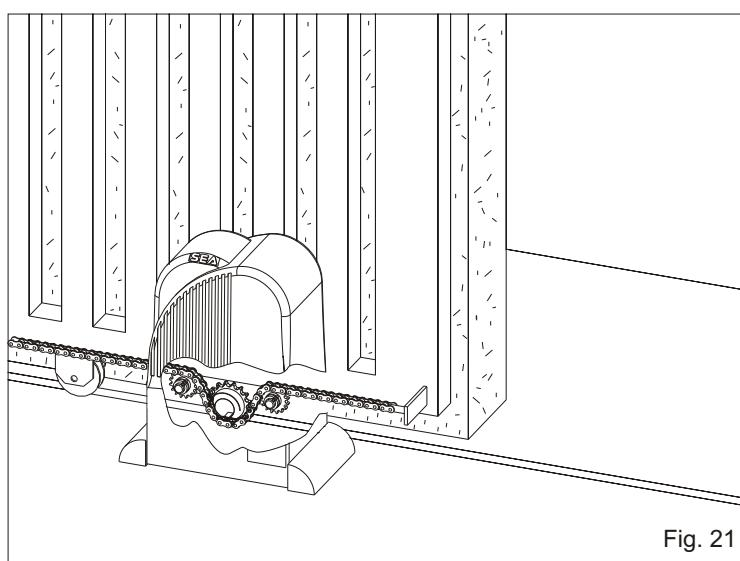
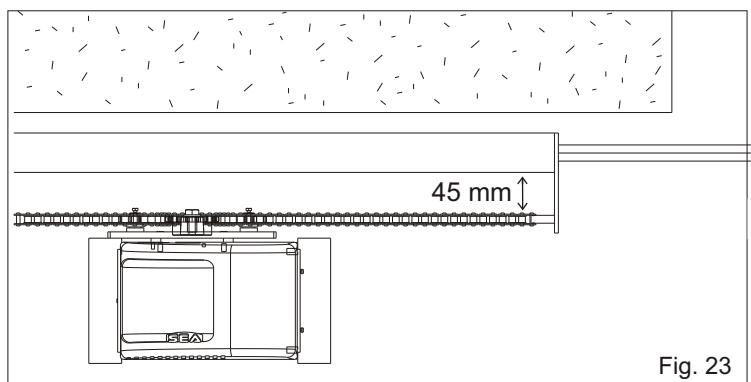
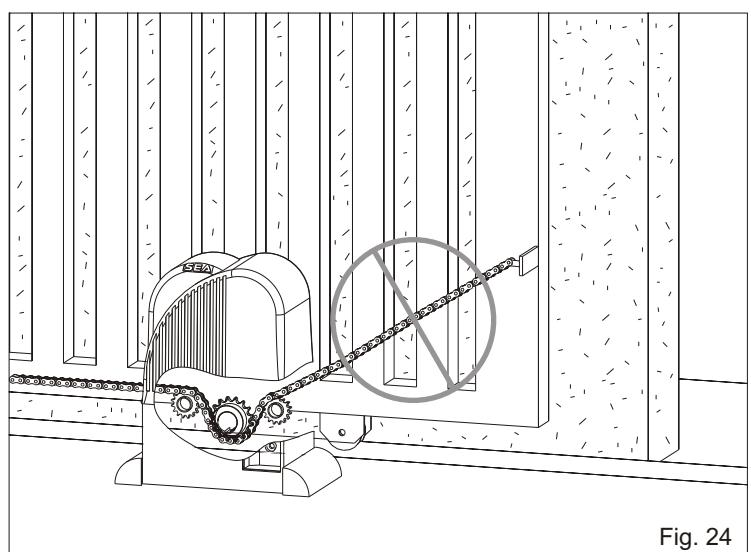

Fig. 21
Fig. 23
Fig. 24
**Notice: the holes for the chain tensioner and so the chain itself must be to a minimum distance of 45 mm from the gate (Fig. 23).**
The chain must be always in line both vertically (Fig. 21) and orizontally (Fig.23), if not perfectly aligned (Fig. 24 and 25) it may derail from the pinion group or the motor reducer risks a greater effort not allowing the right operating of the system.